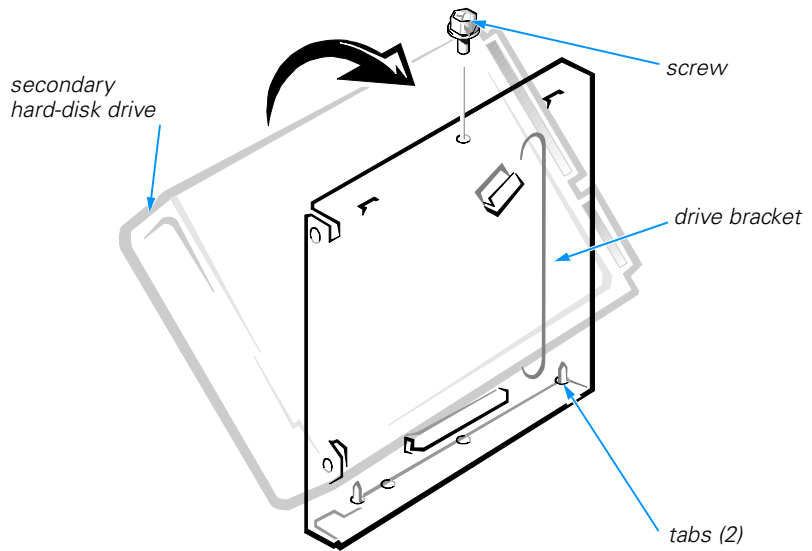

Figure 3-13. Secondary Hard-Disk Drive Bracket
6. Orient the new drive with its circuit board facing the inside of the bracket. Align the two tabs on the inside of the bracket with two screw holes in the side of the drive, and rotate the drive into the bracket as shown in Figure 3-13. Secure the drive to the bracket with one screw on the side opposite the tabs.